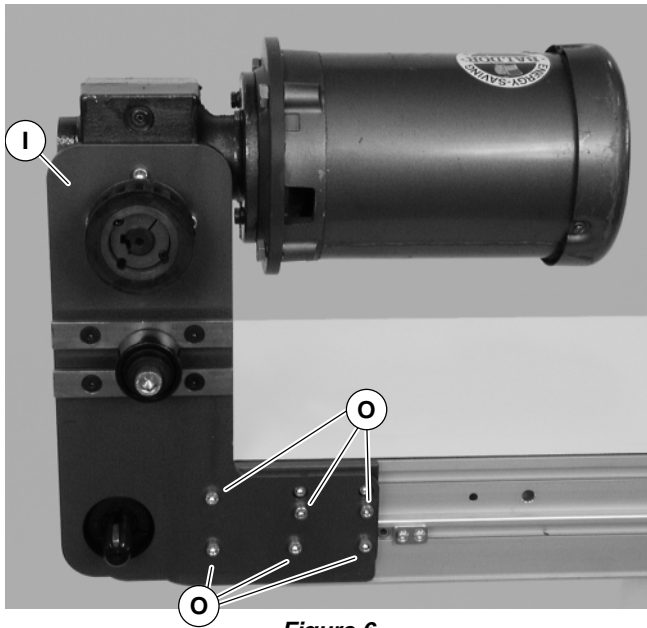

Figure 6
4. Attach mount assembly (I of Figure 6) with screws (O). Install medium length screws on bottom, long screw upper left, short screws upper right. Tighten screws to 9 Nm.